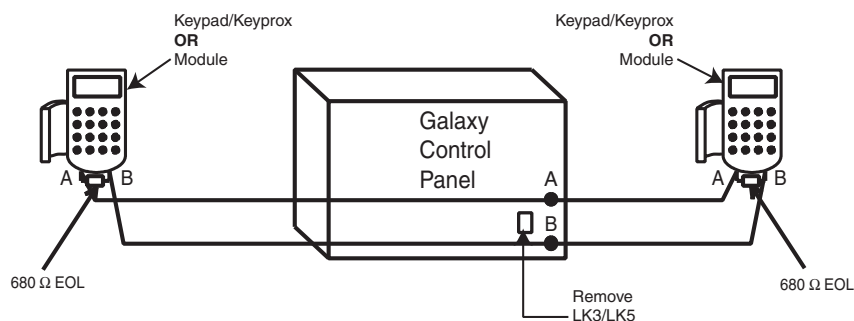

Figure 2-9. Twin AB Line Daisy-Chain configuration
- The RS485 (AB) line must have a 680 Ω resistor fitted across the A and B terminals of the last module on the line. If twin lines are connected, both ends must be terminated with 680 Ω resistors and the appropriate link on the control panel PCB must be removed (refer to figure 2-9).